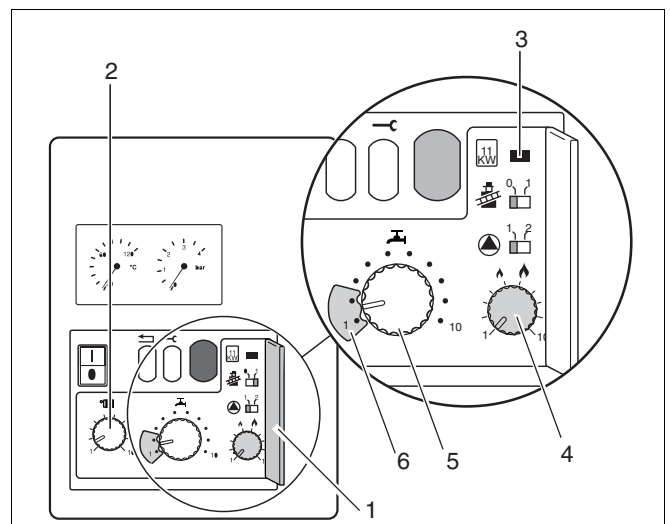

Fig. 33 Control box
- Open the cover to the 2nd operating level (fig. 33, item 1).
- Adjust the knob (fig. 33, item 2) to the desired flow temperature (table 6) for your particular installation.
- Adjust the heat-retaining and outlet temperature (table 6) using the hot-water temperature regulator (fig. 33, item 5).
To avoid energy losses set the controller to setting "1" (fig. 33, item 5). Remove the green blocking plate before making the adjustment.
Key to Fig. 33:
- Use the hot-water temperature regulator to adjust the temperature (fig. 33, item 5) to the desired setting table 6.
Set the heating capacity (table 7), according to the amount of heat required, at the controller (fig. 33, item 4).